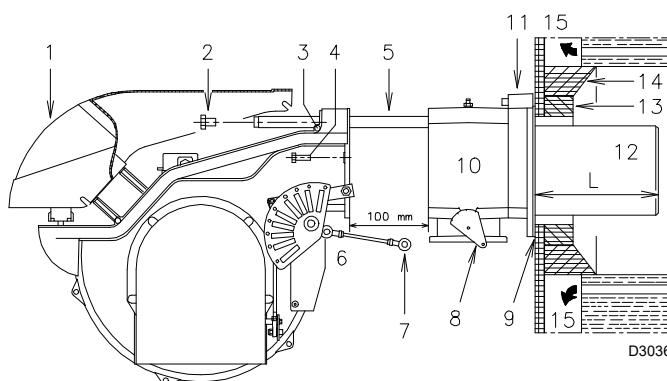
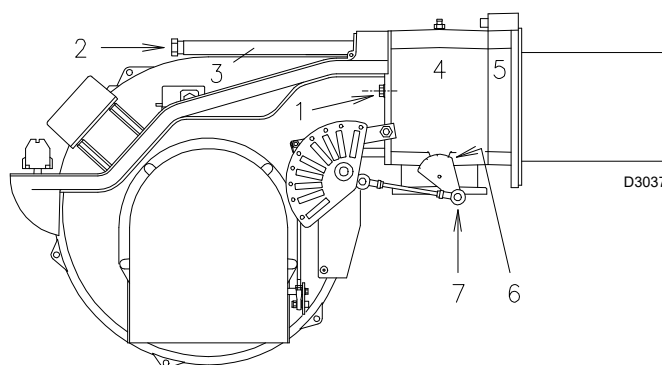

Fig. 12
Fig. 17
For boilers with a water-cooled front piece, a refractory lining 13)-14)(Fig. 12) is not necessary, unless expressly requested by the boiler manufacturer.
- Separate the combustion head from the rest of the burner (Fig. 12):
At this point of the installation, the combustion head is fixed to the boiler as shown in Fig. 12.
Once you have finished setting up the head, refit the burner to the slide bars 3)(Fig. 17) at approximately 100 mm from the sleeve 4)(Fig. 17) - burner positioned as shown in Fig. 12 - insert the flame detection probe cable and the ignition electrode cable and then slide the burner up to the sleeve so that it is positioned as shown in Fig. 17.
Refit screws 2) on slide bars 3)(Fig. 17).
Secure the burner to the sleeve by tightening screw 1)(Fig. 17).
Reconnect the articulation 7) to the graduated sector 6)(Fig. 17).